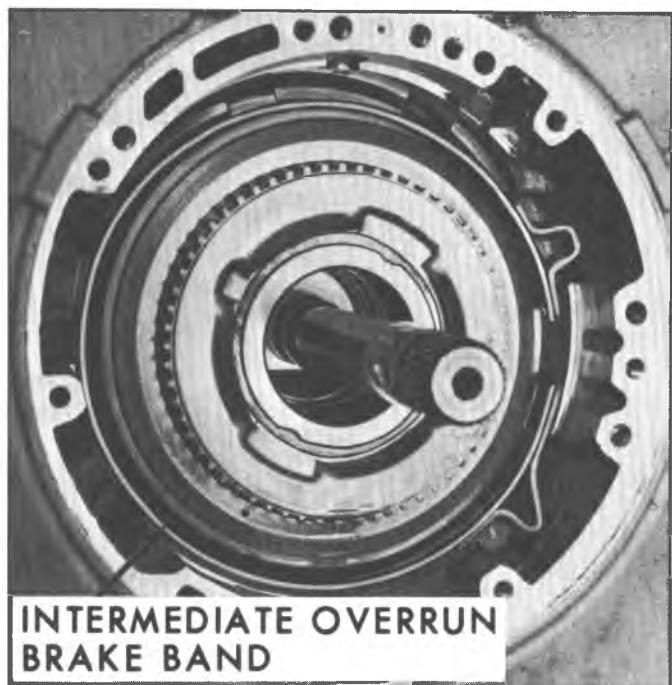

Fig. 31M--Removing Intermediate Overrun Brake Band
6. Remove intermediate overrun brake band (fig. 31M).